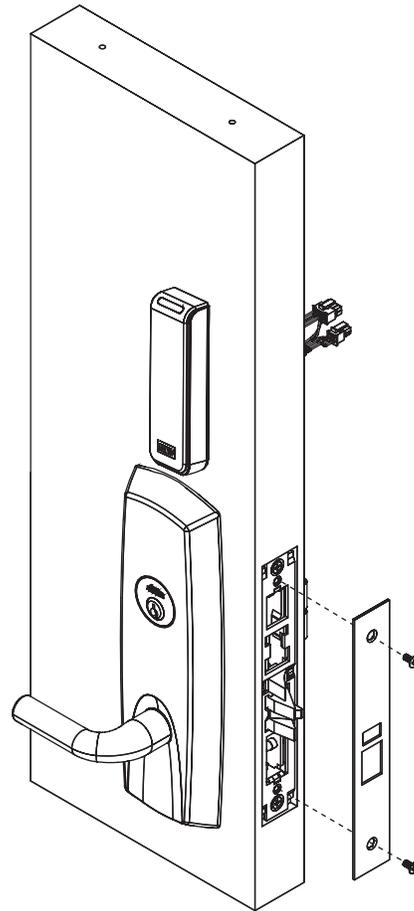

Figure 9d
5. Install armored front (Figure 9d).